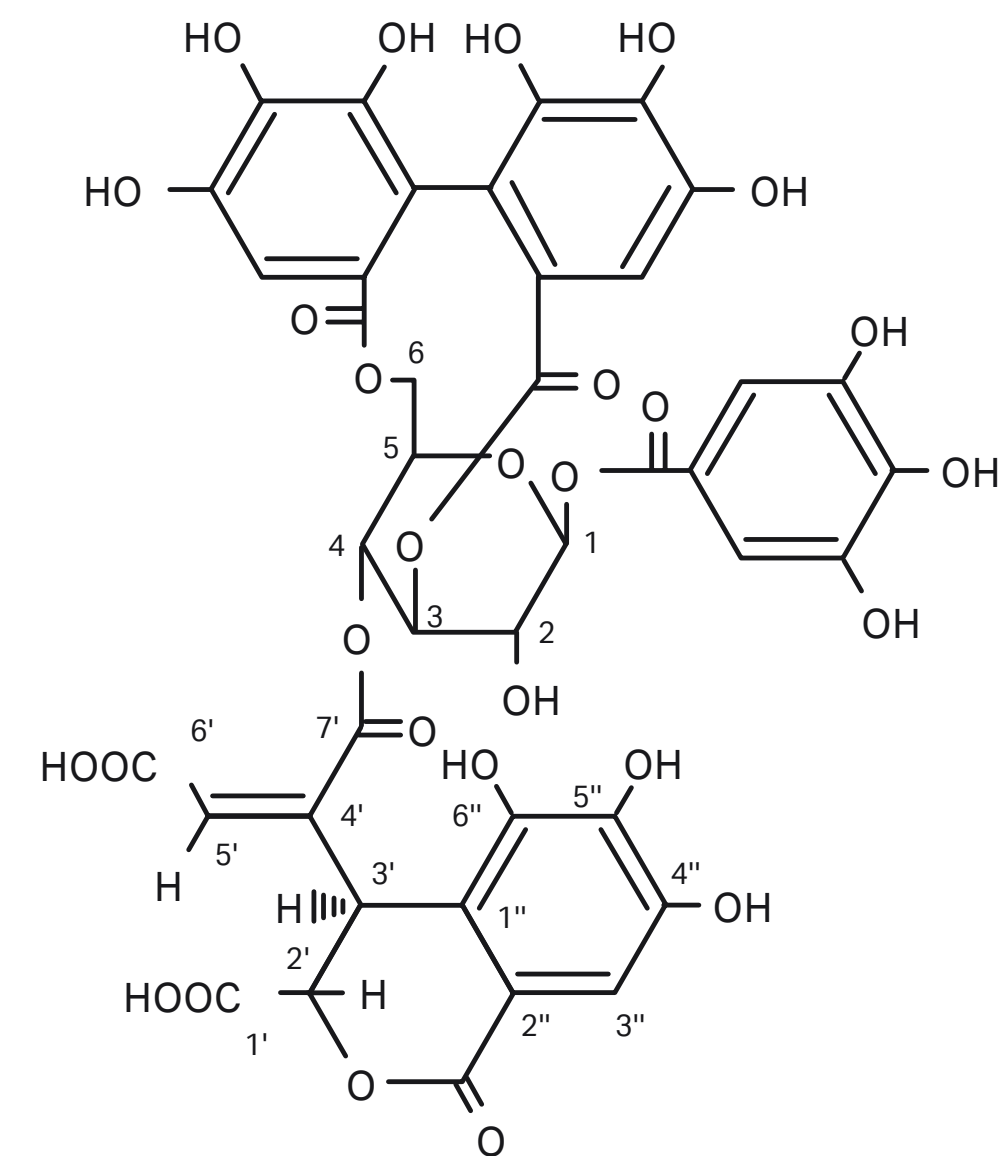

Fig A7.2. Structure of free acid form of repandusinic acid A.
Phyllanthus niruri is a widespread tropical plant that has been used as a natural medicine against edema and jaundice for many years. Aqueous extracts of this plant contain an inhibitor of HIV-1 reverse transcriptase (RT), which has been identified as repandusinic acid A monosodium salt (RA), a small tannin-like molecule (1). Purification results of RA from *P. niruri* using a purification scheme including Sephadex LH-20 are found in Sephadex LH-20 data file, 18110722. The structure of the free acid form of repandusinic acid A is shown in Figure A7.2.